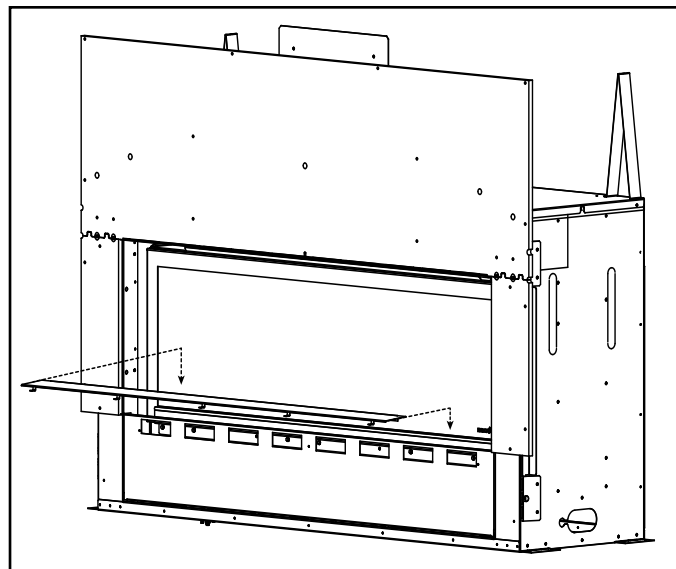

Figure 11.15 Install Bottom Vanity Panel
10. Install bottom vanity panel between glass and glass frame. See Figure 11.15.